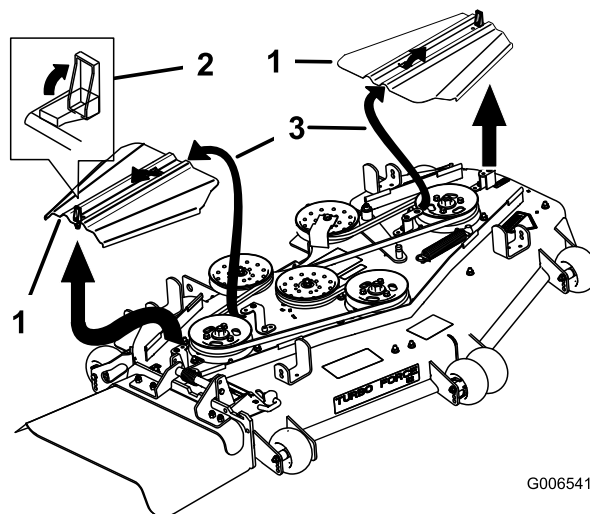

Figure 64
3. Remove the belt covers (Figure 64).